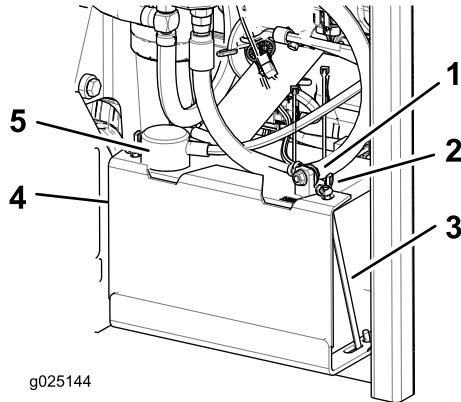

Figure 44
3. Disconnect the negative battery cable (black) from the negative (-) battery terminal (Figure 44).
4. Slide the red terminal boot off the positive (red) battery terminal and remove the positive (+) battery cable (Figure 44).
5. Remove the wing nuts securing the J-hooks (Figure 44).
6. Remove the clamp (Figure 44).
1. Position the battery in the tray with the terminal posts opposite from the hydraulic tank (Figure 44).
4. Secure the cables with 2 bolts, 2 washers, and 2 locknuts (Figure 44).
6. Install the clamp and secure it with the wing nuts and J-hooks (Figure 44).